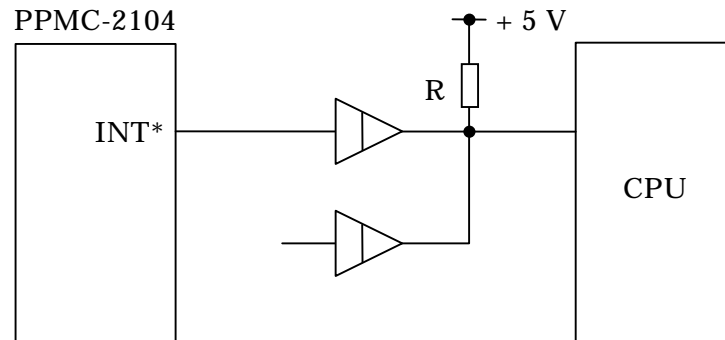

Fig. 2-1 PPMC-2104 Interrupt Output Signal Connection Example
- (1) When instruction code end interrupt control to the PPMC-2104 has been enabled and PPMC-2104 pulse output has ended.
- (2) When the instruction or parameter received from the host processor by the PPMC-2104 is illegal.
The PPMC-2104 has 2 axes worth of control functions. Consequently, there are 4 interrupt causes. The INT* signal is generally at the "H" level and changed to the "L" level when the condition in (1) or (2) above is met. As the INT* signal terminal is not of open collector, install an open collector type buffer as shown in **Fig. 2-1**, when connecting multiple interrupts.